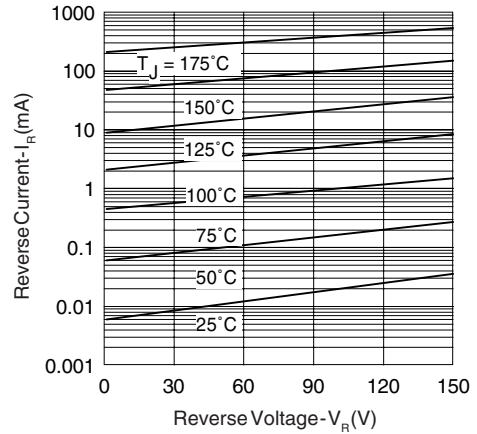

Fig. 2 - Typical Values Of Reverse Current Vs. Reverse Voltage
| I_{RM} Max. Reverse Leakage Current (1) * See Fig. 2 | 4.5 | mA | $T_J = 25^\circ\text{C}$ |